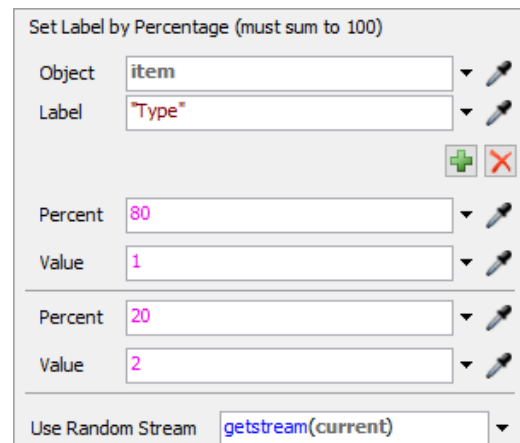

Fig. 9 Option Set Label by Percentage
3. **Set Label by Percentage** – allows you to change the label value based on the percentage distribution. Use the green button to add more cases (Fig. 9).